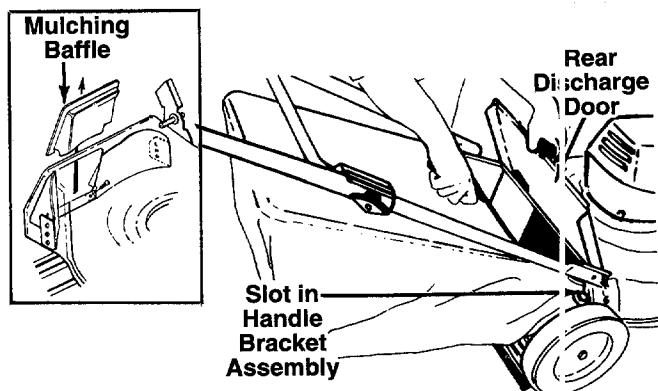

FIGURE 2.
**NOTE:** If your mower is equipped with the optional mulching baffle, it is in place on the mower. To remove the mulching baffle, lift the rear discharge door on the mower. Remove the mulching baffle. See figure 2, inset.
To attach the grass catcher, lift the rear discharge door on the mower. Place the hooks on the grass catcher into the slots in the handle bracket assemblies. See figure 2. Release the rear discharge door.